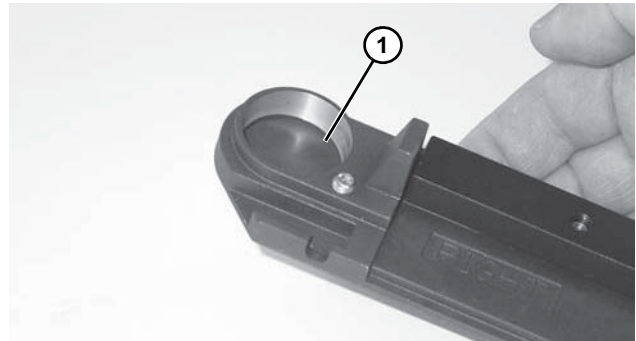

Figure 67
1. Inspect the head plates bearing seating surface (**Figure 67, item 1**). If they are worn or damaged, replace. See “Service Parts” on page 35.